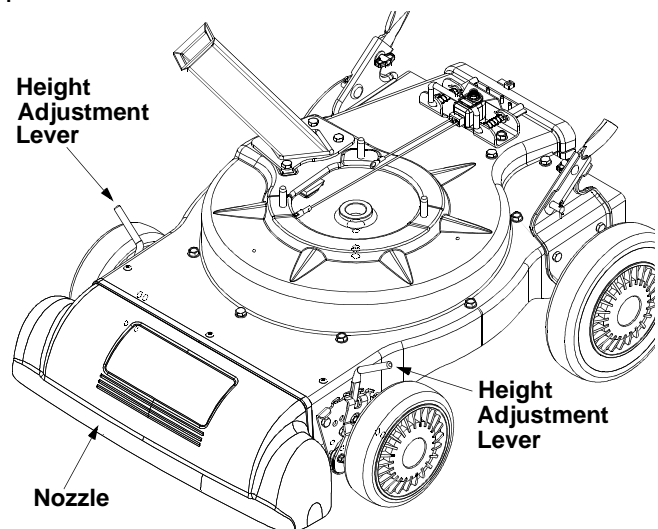

Figure 2
3. Raise the nozzle height to the highest setting when using the blower chute. Move the height adjustment levers forward or backward to adjust the nozzle upwards or downwards. See Figure 2.